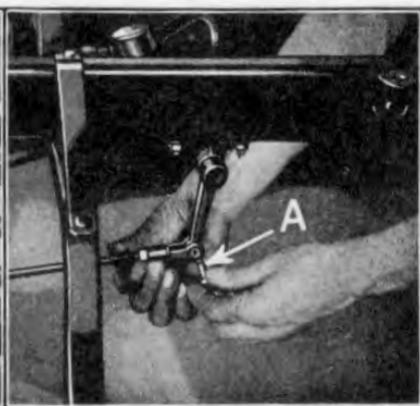

Fig. 52
- 56 **Remove brake rods from control shaft** by removing cotter key and withdrawing clevis pin (See "A" Fig. 52).